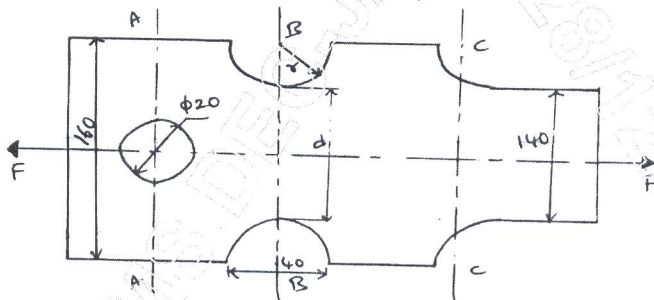

Fig.Q2(b) (12 Marks)
b. A flat bar shown in Fig.Q2(b) is subjected to an axial load of 100 kN. Assuming that the stress in the bar is limited to 200 N/mm², determine the thickness of bar.